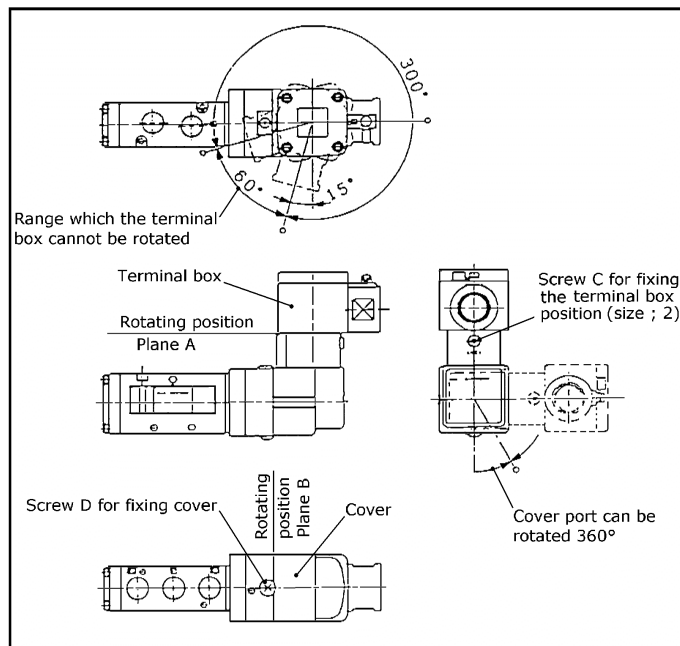

Figure 14
2.3 Electrical entry (see Figure 14)